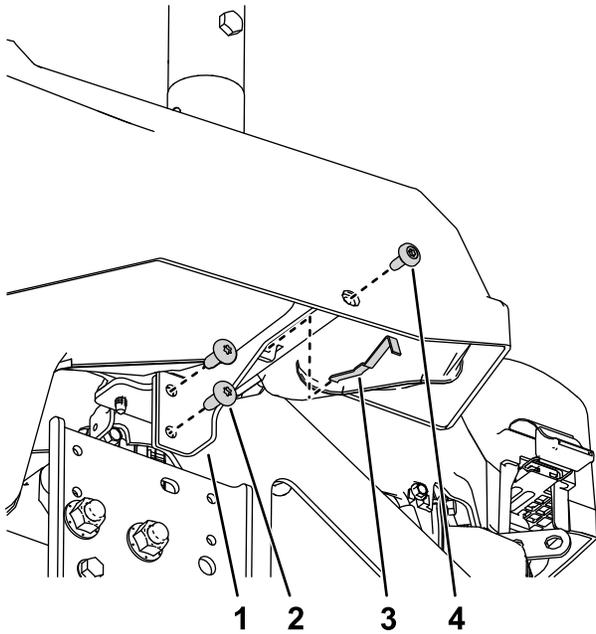

Figure 9
3. Install the left pod bracket to the machine frame using 2 thread-forming screws (5/16 x 3/4 inch) and the parts removed in 1 Preparing the Machine \(page 4\) as shown in Figure 9.